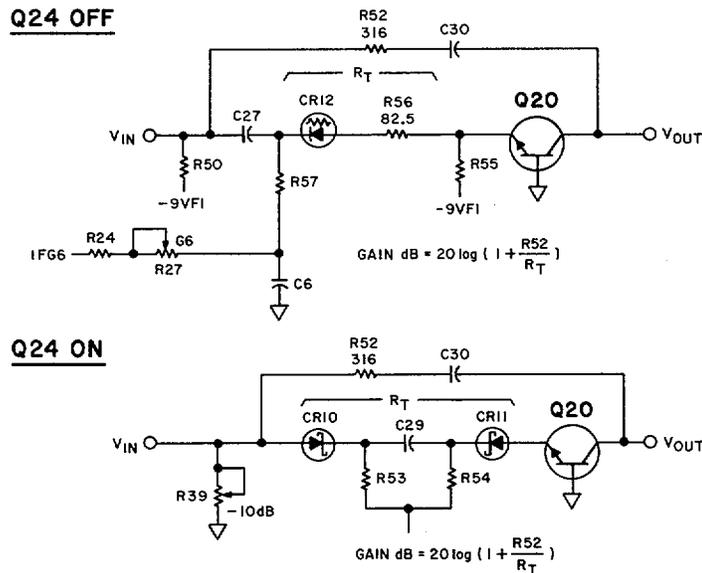

Figure 8-36. Simplified Log Amplifier Stage
**Log Amplifier Gain.** The operation of the second stage is described. In the log mode of operation, Q24 (Gain Control Lines circuit) is on, forward biasing the log diodes, CR10 and CR11, which are Schottky diodes with a forward bias voltage of approximately 0.4V. The gain of the amplifier is set by the ratio of R52 to the total resistance  $R_T$  between the emitters of Q13 and Q8. An example of gain computation is shown in Figure 8-36  $R_T$  is at a minimum (approximately 150 ohms) for small signals when the ac signal current in log diodes CR10 and CR11 is small compared to their dc bias current. As the ac signal level is increased, the ac signal current increases to the level of the dc bias current and  $R_T$  increases because of current limiting in the diodes.